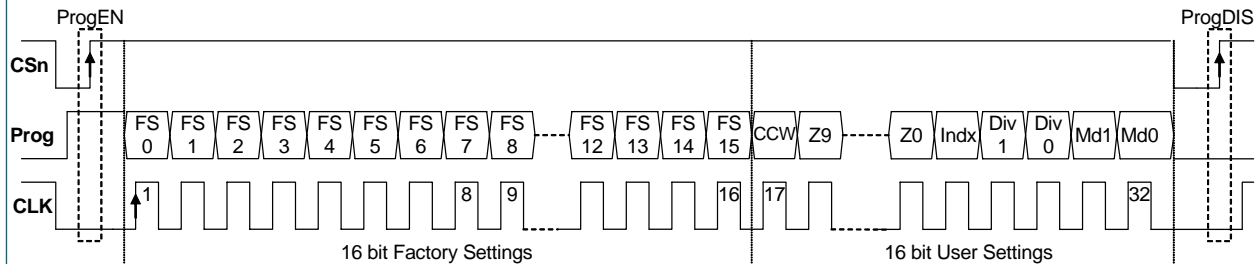

Figure 12: 32-bit OTP register write sequence
The complete OTP register write sequence is shown in Figure 12 below. Like the OTP read sequence, it is initiated with Prog = high and CLK = low at the rising edge of CSn, but no further pulses are applied at CSn. The programming data must be applied at Prog and is shifted into the OTP with every rising edge of CLK. The sequence of bits is the same as during OTP read: the first bit is factory settings bit 0 (FS0) followed by FS1....FS15.
- Write the 16 user bits containing the wanted settings to the OTP register like shown in Figure 12.